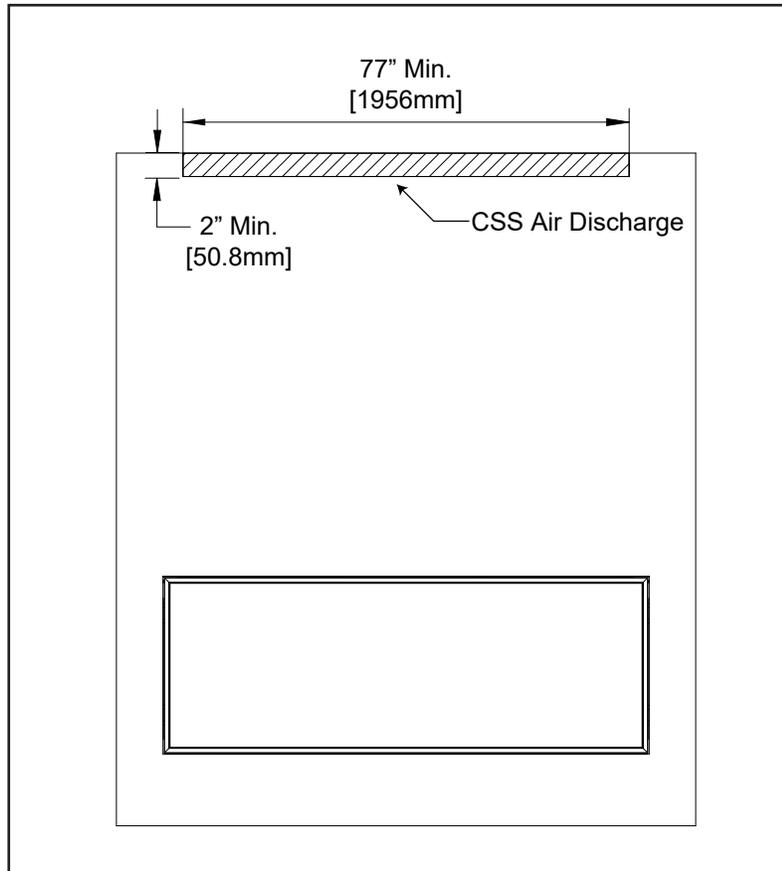

Figure 1: CSS Front Discharge
**Option 1: Front Discharge (flush wall installations)** - Construct the framing in a way that provides a **minimum 77" (1956mm) x 2" (50.8mm) opening** at the top of the facing wall. It is essential that these dimensions are respected and not deviated away from them when using combustible materials inside or outside the chase (see Figure 1).
**Option 3: Side Discharge (built-out installations)** - The framing can also be constructed in a way that provides two side vents as shown in Figure 5. The size of the side vents must provide a minimum open area equal to the area provided by the front CSS discharge shown in Figure 1 (i.e. 2in x 77in = 154 in2).